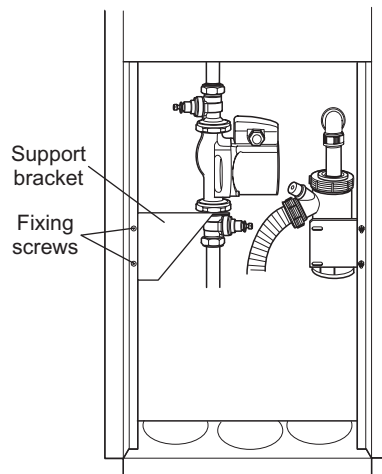

Fig. 3 - Rear view (showing pump assembly)
8. Fit the pump/pump valve assembly to the end of the pressure relief valve/auto air vent manifold pipe. Ensure that the pump shaft is horizontal and the pump motor is facing towards the right side of the boiler (viewed from the rear). Refer to Fig. 3. The flow arrow on the body of the pump must face in the required direction of flow – away from the boiler flow connection – downwards in this case.